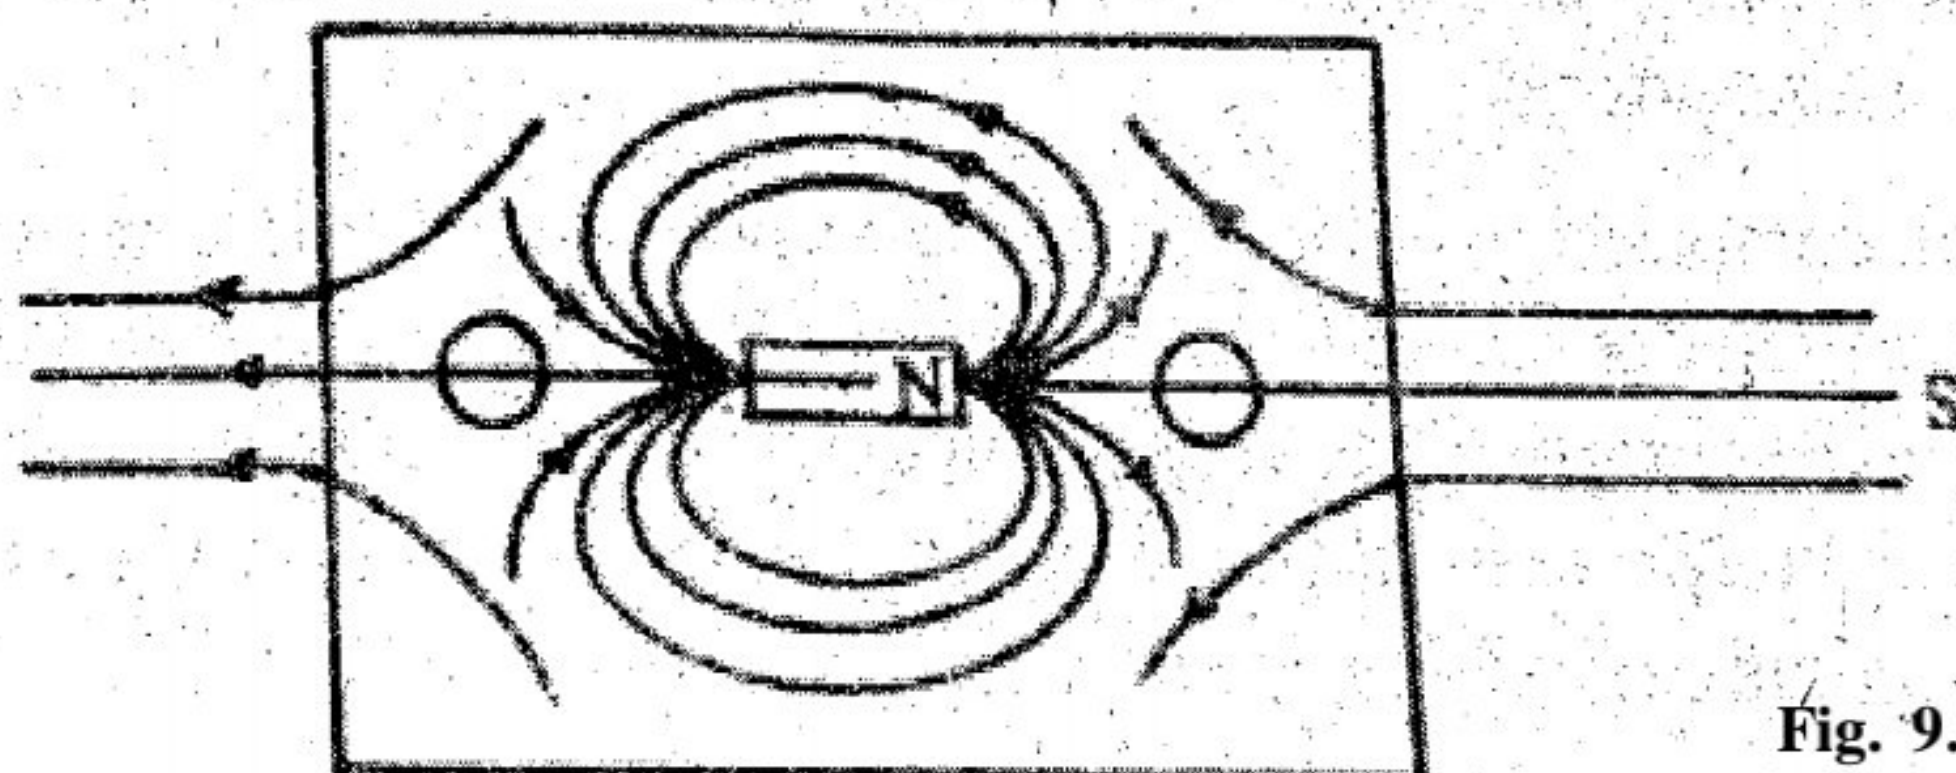

Fig. 9.8
- (ii) Now follow the same procedure as in the last experiment. The lines of force will look as shown in Fig. 9.8 above.